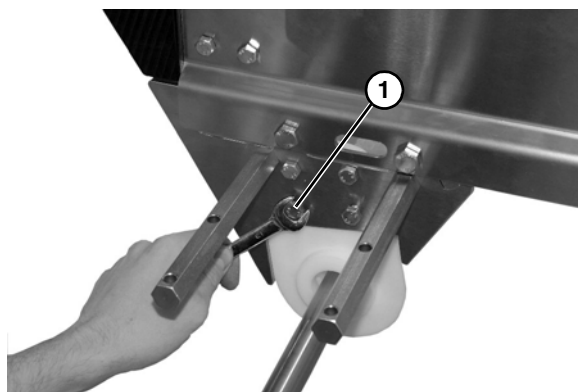

Figure 31
7. Remove the four head plate bolts (**Figure 31, item 1**) on both sides of conveyor.